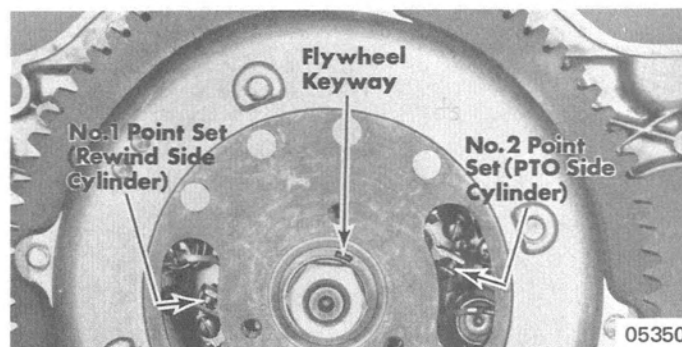

Figure 1. Breaker Point Adjustment
4. Check and adjust point gap to specifications (refer to "Specifications" Section 8) thru flywheel slot. (Figure 1)